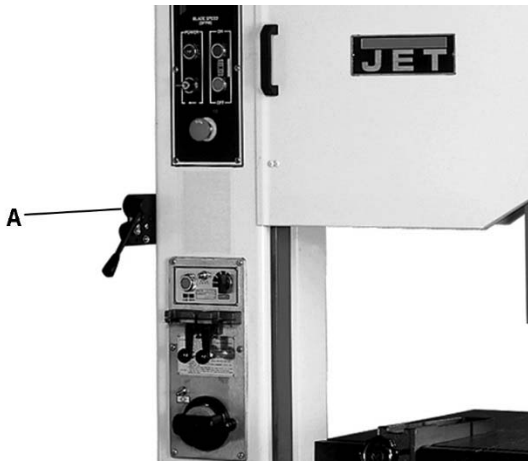

Figure 1
3. Remove two socket head cap screws from left side of vertical column. Attach shear assembly (A, Figure 1) to column by inserting screws.